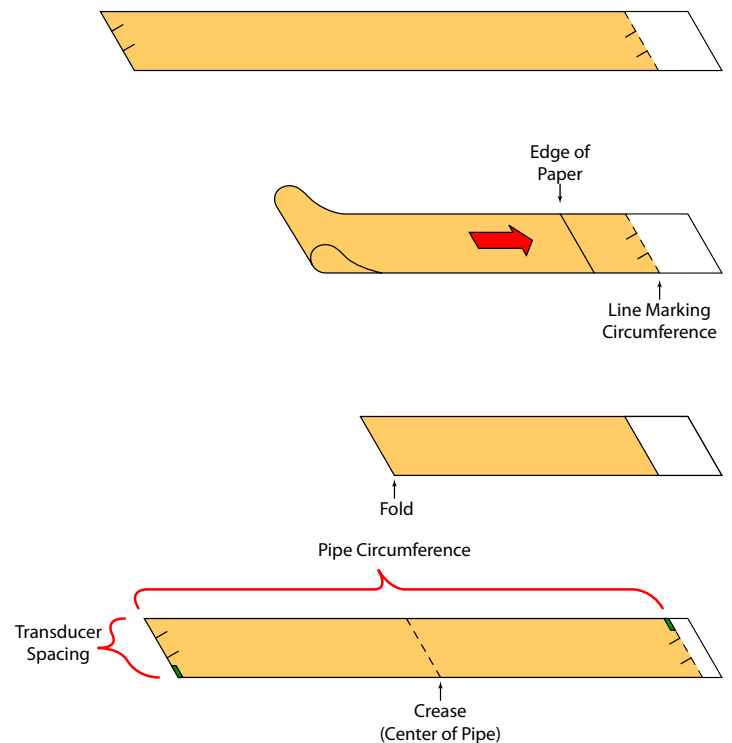

FIGURE 2.12 - BISECTING THE PIPE CIRCUMFERENCE
- 2) Mark the intersection of the two ends of the paper to indicate the circumference. Remove the template and spread it out on a flat surface. Fold the template in half, bisecting the circumference. See **Figure 2.12**.